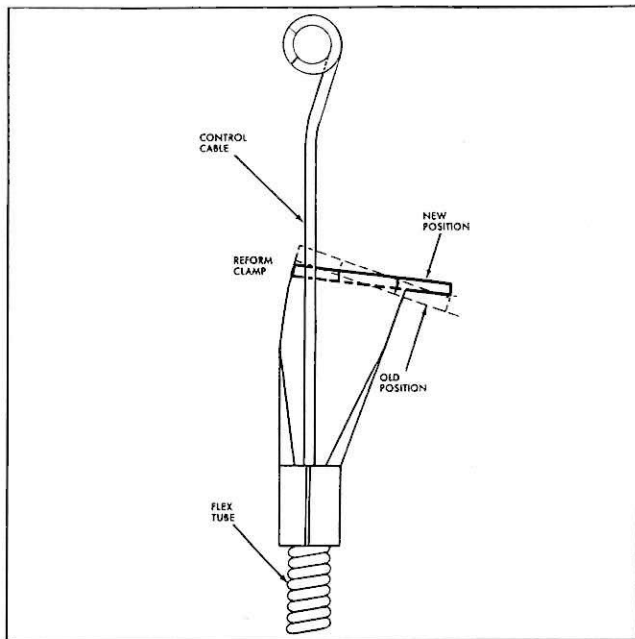

Fig. 11—Reforming Control Cable Support
6. Pull cable and tube assembly up and reform clamp according to (fig. 11).